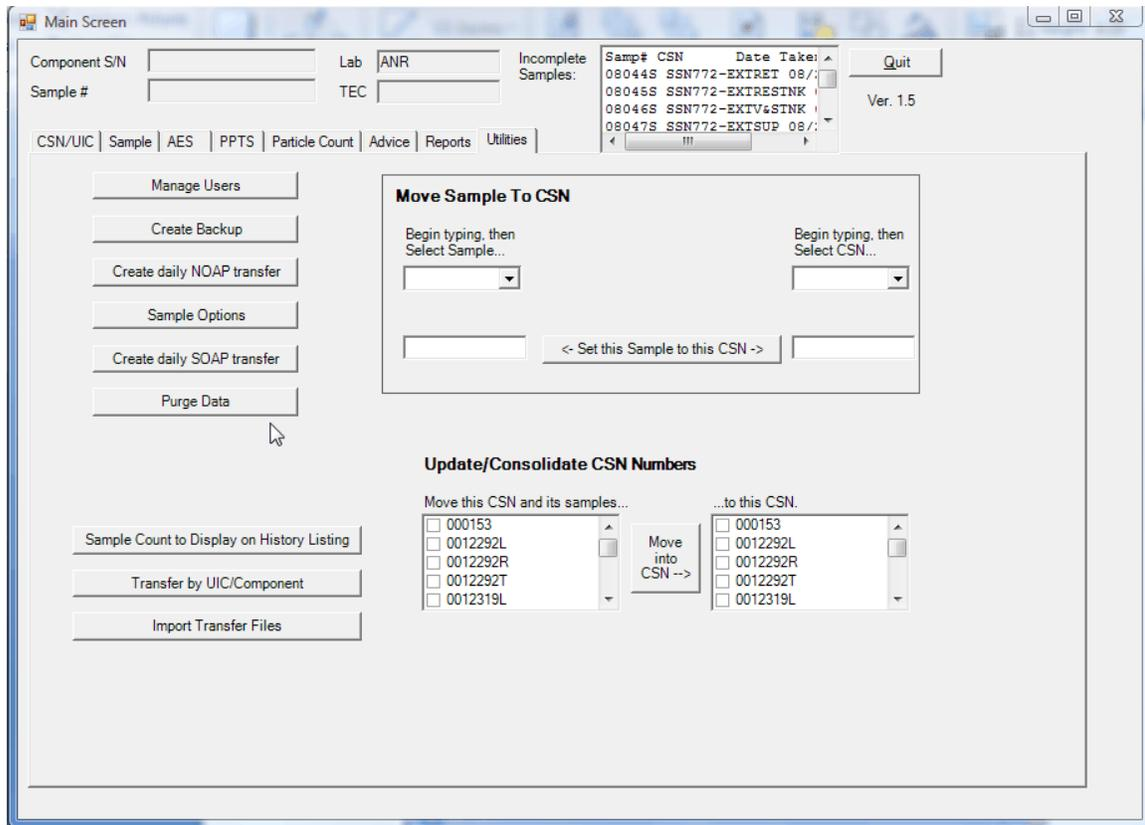

Figure 103. Utilities Tab
f. Move sample to CSN. From the main sample screen press the Utilities tab and the following screen will appear (Figure 103). Move sample to CSN takes a sample entered under the wrong CSN and moves it to the correct CSN. If the TEC's are different the sample needs to be deleted then reentered.